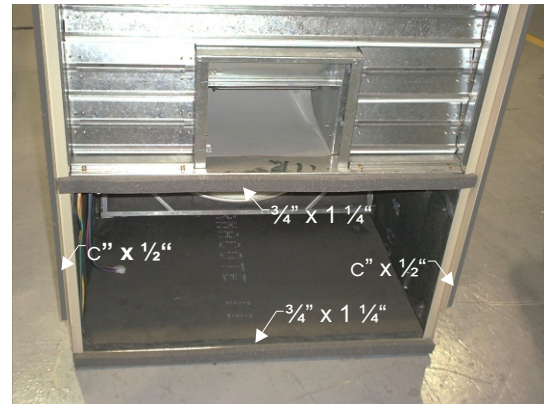

Figure 9
- 21- Apply  $\frac{3}{4}$ " x  $1\frac{1}{4}$ " gasket to top and bottom decks of ERS as shown in the figure. **See Figure 9**. Apply  $C$ " x  $\frac{1}{2}$ " gasket to ERS side flanges.